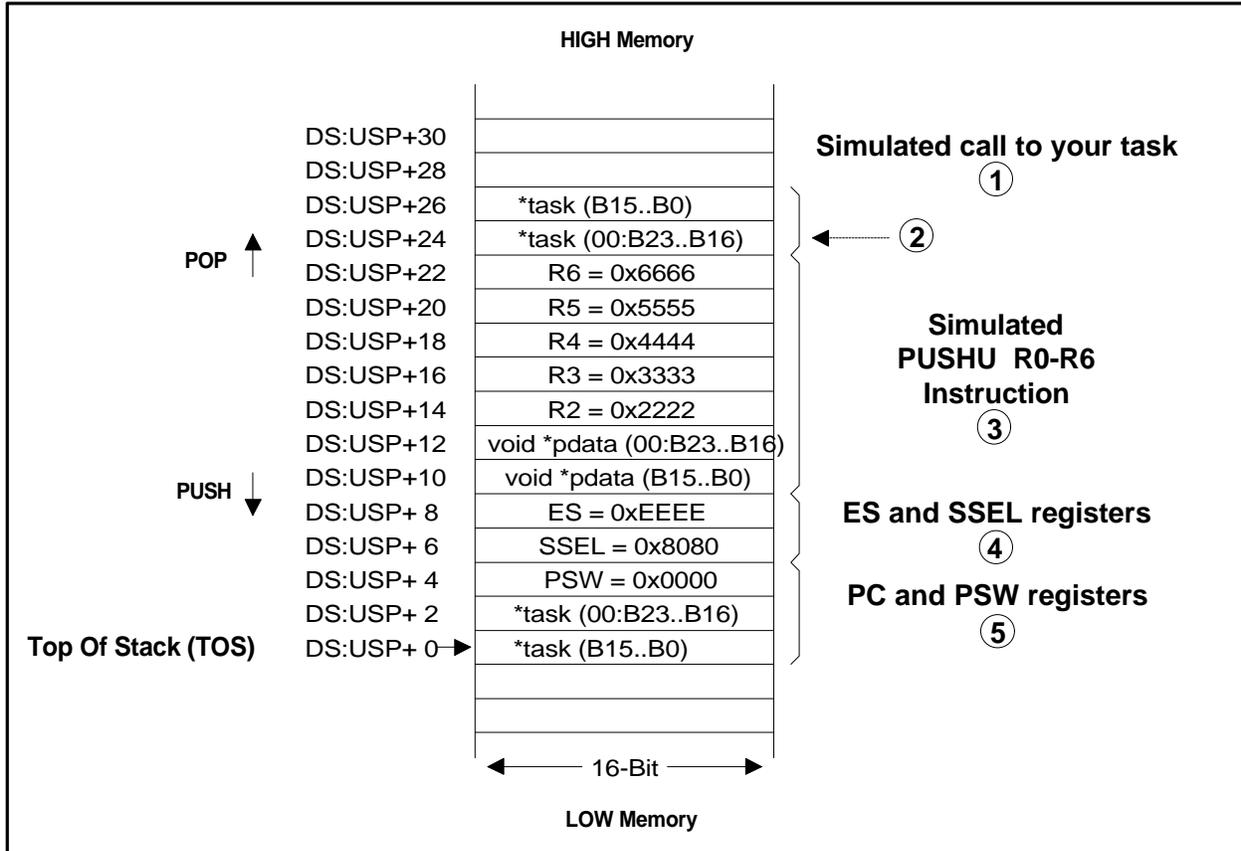

Figure 2, Stack frame of a task when a task is created.
As previously mentioned, you must prepare your tasks for multitasking by calling `OSTaskCreate()`. `OSTaskCreate()` builds the stack frame for the task being created as illustrated in figure 2. DS:USP indicates that once the task gets to execute, the stack will be located in the bank selected by the DS register at an offset supplied by the USP. You should note that pointers in the large model are 32-bits but, only the least significant 24 bits are used. `OSTaskCreate()` first sets up the stack to make it look as if your task has just been called by another C function ①. In other words, when your task first executes, it will think it was called by another function since the stack pointer will point as shown in ②. For the Tasking compiler, the address of `pdata` is passed in registers R1 (upper 16-bits) and R0 (lower 16-bits). `OSTaskCreate()` then simulates the stacking order of a `PUSHU R0-R6` instruction ③ which is needed for a context switch. The initial value of each register is set to the values shown for debugging purposes and can thus be changed as needed. Next, `OSTaskCreate()` stacks both the ES register and the SSEL register ④. Even though both the ES and SSEL registers are 8-bit, they are stacked as two 16-bit values because all XA stacking operations are 16-bit. The SSEL register is initialized to 0x80 to allow
your task to read and write data anywhere in the 16-MBytes data address space. You may not want to change the initial value of the SSEL register because the compiler will not know that write through the ES register is not allowed (run-time) but, it will generate code (compile-time) as if it was. During an interrupt or a context switch, the XA pushes the PC and the PSW onto the system stack. The stacking order of these registers as shown on the stack frame of figure 2 is reversed because OSTaskCreate() simulates a move of these registers from the system stack to the user stack ⑤.